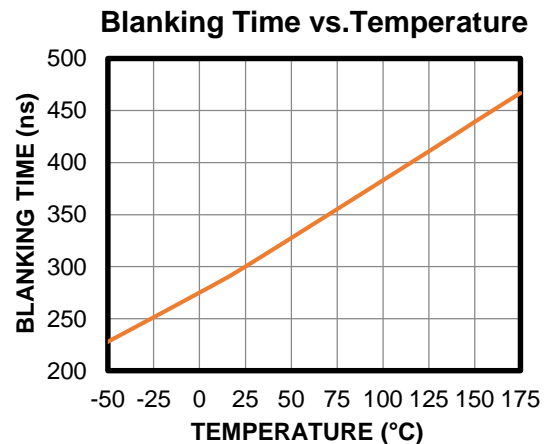

Figure 2: Blanking Time vs. Temperature
The value of the inductor affects the driver's maximum current capability. There is a blanking time in the boost converter, and the inductor current is not detected during the blanking time. The relationship between the blanking time and temperature is shown in Figure 2. To ensure that the inductor current does not exceed 220mA during the blanking time, the inductor value ( $L$ ) should meet the condition estimated with Equation (7):
|            |               | Updated the Selecting the Boost Inductor section: added the Blanking Time vs. Temperature curve as Figure 2; added more detailed information; updated the recommended inductor information | 24            |